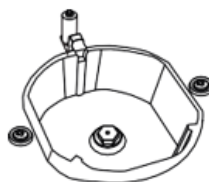
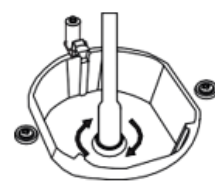

Figure 4
Figure 5
4. Please remove nozzle (figure 4) from burner with special nozzle driver and install new nozzle (figure 5).